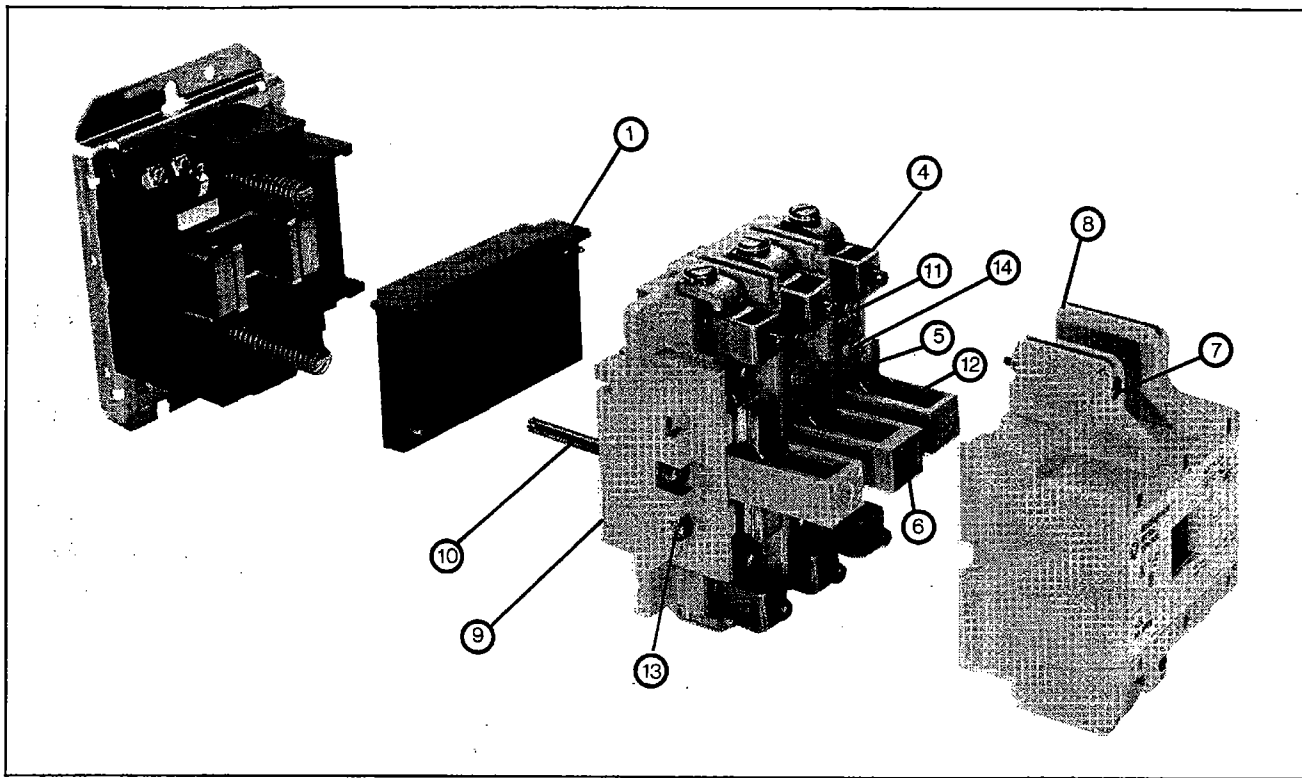

Fig. 9 A201 Magnetic Contactor (Exploded View)
Refer to Figure 9. Loosen the two arc box assembly screws (7) located immediately above and below the nameplate and remove the arc box (8). Contacts (5) are visible. Retighten the screws per Table III.
Refer to Figure 9. Loosen the assembly screws (10) located to the immediate left and right of the arc box. Pull the loosened upper base structure (9) forward. Pull the coil (1) from the upper base, plug in a new coil,